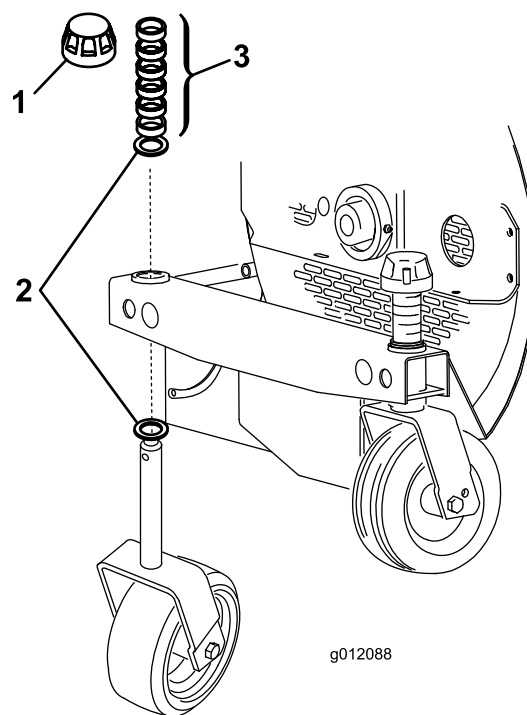

Figure 4
1. Remove the tensioning caps from the spindle shafts and slide off the castor wheel, spacers, and thrust washers (Figure 4).
2. Slide the spacers onto the castor spindle to get the desired height. Slide a thrust washer onto the spindle and push the castor spindle through the frame. Install another thrust washer and the remaining spacers onto the spindle and install the tensioning cap to secure the assembly (Figure 4).